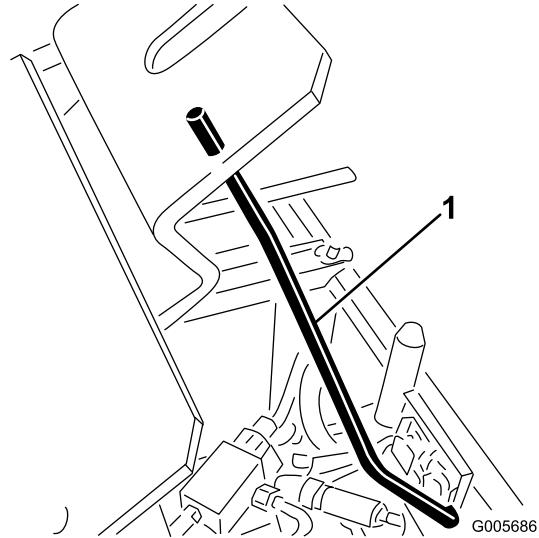

Figure 10
4. Hold seat up with seat support rod (Figure 10).
6. Hold seat up with seat support rod (Figure 10).